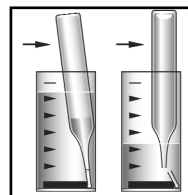

Figure 3
4. Place the Vacu-vial ampoule, tip first, into the sample cup. Snap the tip. The ampoule will fill leaving a bubble for mixing (fig 3).